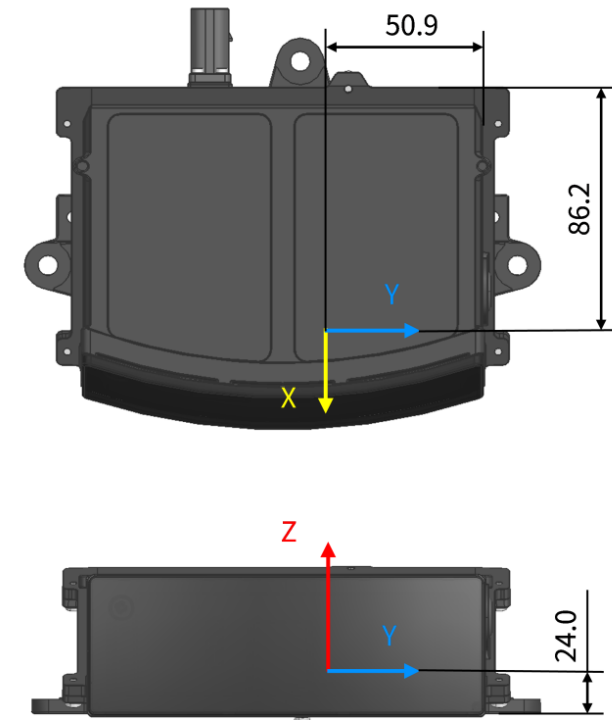

Figure 5. Origin of coordinates (unit: mm)
- The origin's exact position is shown in Figure 5. All measurements are relative to the origin.